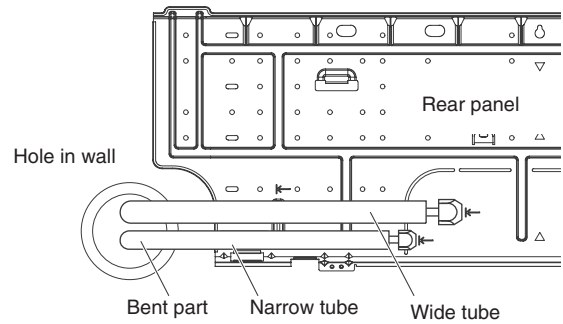

Fig. 1-171
- (1) Lead the tubing and drain hose through the wall, allowing sufficient length for connection. Then bend the tubing using a tube bender to make the attachment. (Fig. 1-171)
- (2) Switch the drain hose and drain cap.